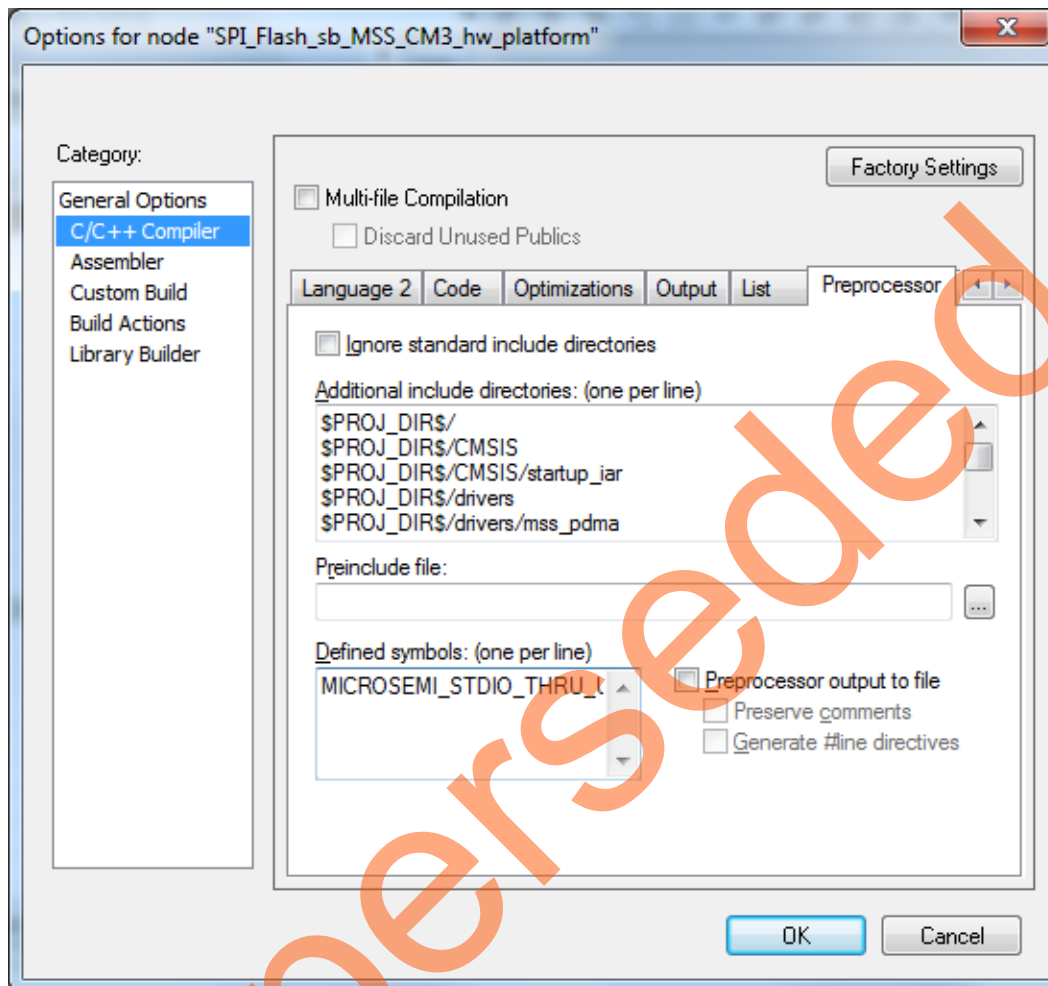

Figure 26 • IAR Workspace Window - Adding Symbol
11. Under **Defined symbols**, enter **MICROSEMI\_STUDIO\_THRU\_UART** and click **OK**, as shown in Figure 26.